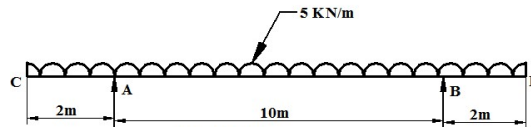

Figure 27
18. Draw shear force and bending moment diagram for the loading factor on the beam as shown in **Figure 27**. Indicate where the inflection and contra flexure points are located. Also locate maximum bending moment with its magnitude